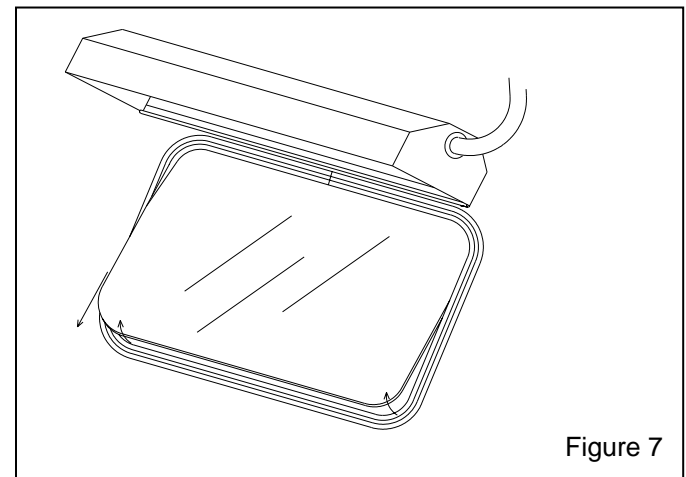

Figure 7
6.3.3. Place an arm into a glove, and push the bottom edge of the window out of the molding, as shown in Figure 7, while supporting the top of the window with the other hand.